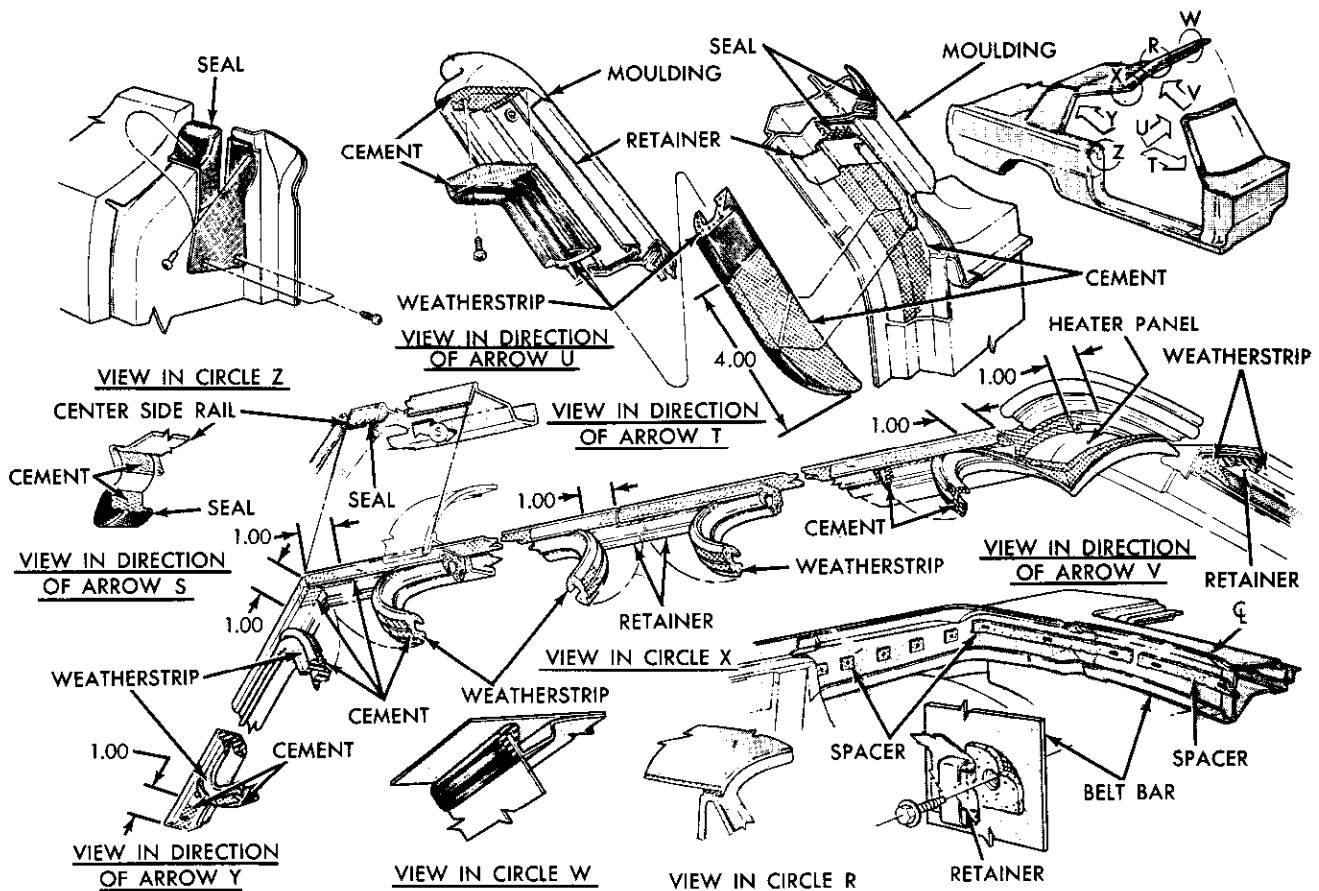
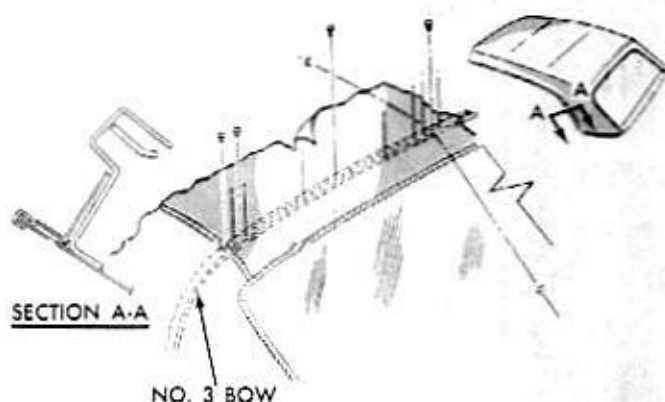
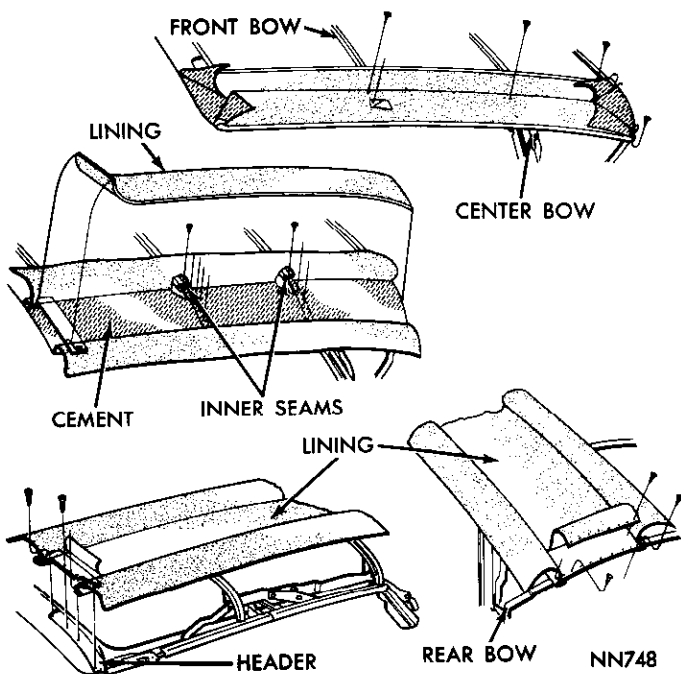
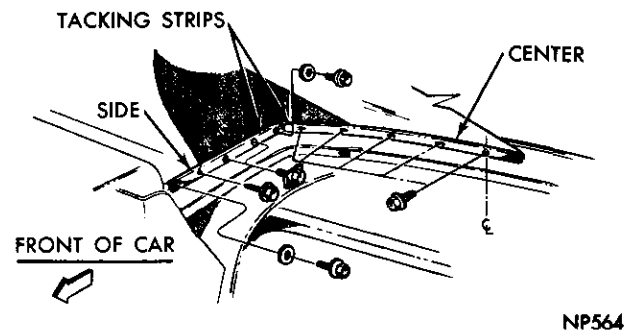

Fig. 7—Roof Rail Weatherstrips
Fig. 10—Removing Staples and Tacks at Rear Bow
Fig. 13—Stay Pad Attachment
Fig. 14—Cover Tacking Strips (Coronet)
If weatherstrip is not sealing properly, the retainer can be adjusted. The retainer has elongated attaching screw holes which permit in and out adjustment (Fig. 7).
(6) Remove staples and tacks (one tack used on each side at binding areas and at centerline area attaching top cover to rear bow (Fig. 10).
(7) Prop top off of windshield header and remove moulding from top header. The moulding attaching screws are located under the weatherstrip.
(8) Raise top to the 1/2 open position and remove rear roof rail weatherstrip (Fig. 7). Mark location of retainer screws on roof rail to aid in reassembling, and remove retainer.
(9) Remove top and rear curtain material from
damage and moisture. The stay pads are attached to the header and roof bows with tacks (Fig. 13). The rear window zipper top half is tacked to the rear bow (Fig. 10) and the curtain bottom portion is attached to tacking strips (Fig. 14).